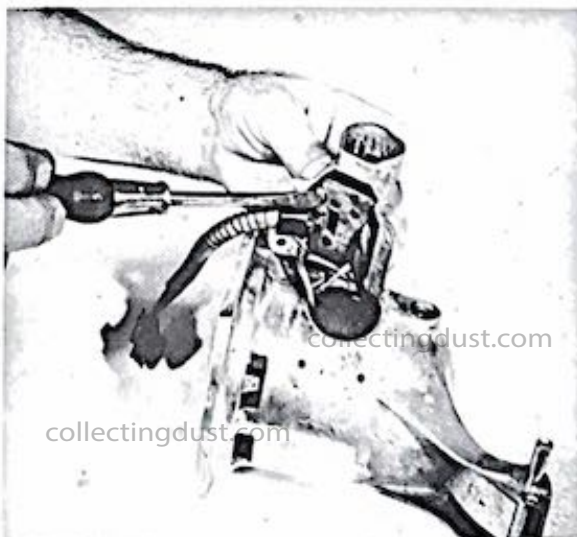

Figure 1-9. Installing foot switch in housing
(2) Position the switch in the switch housing (33, fig. 1-1) so that the connector prongs enter the opening. Taking care that the insulating tube remains in position, secure the switch to the switch housing by tightening the two screws as shown in figure 1-9.